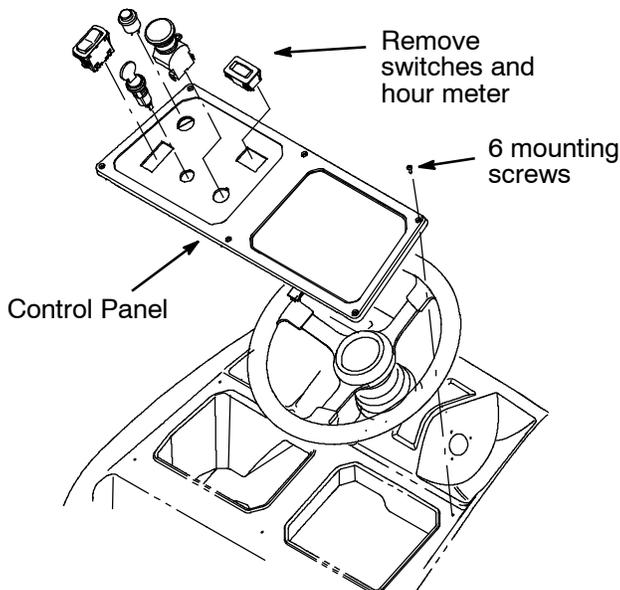

Fig. 1
2. Remove the old control panel from operator shroud. Carefully disconnect the wire connectors from the electrical components. Remove the existing switches and hour meter from old panel for reuse (Figure 1).